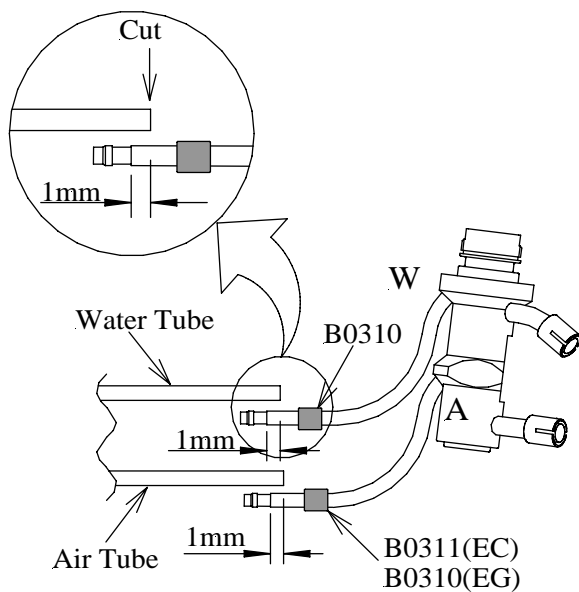

Fig.4-3-1
- 1) Bring Air and Water tubes beside the metal pipe of A/W Cylinder, and cut them at the length as shown in Fig4-3-1.